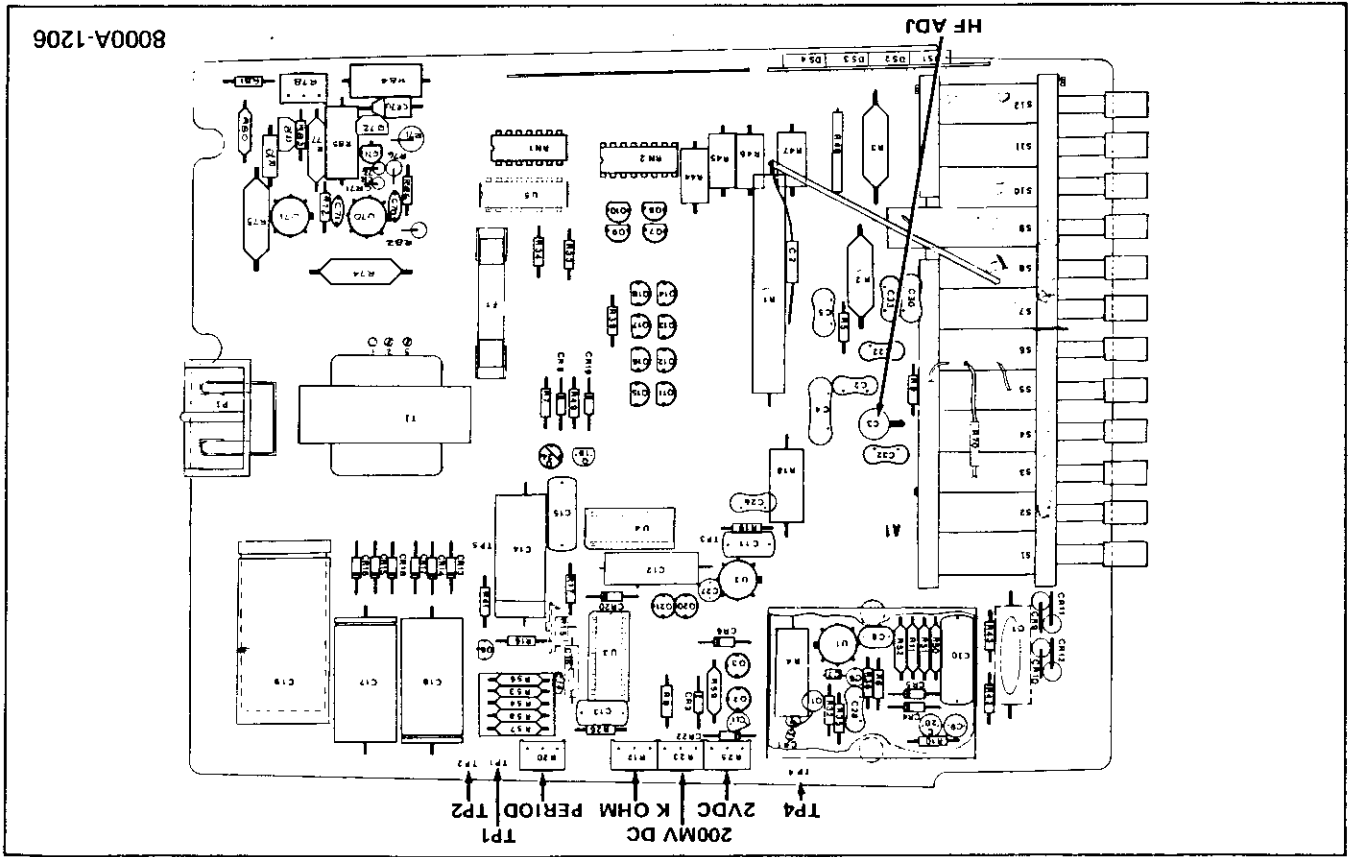

Figure 4-1. ADJUSTMENT AND TEST POINT LOCATIONS
- Connect the frequency counter between TP5 and TP4 (common) as shown in Figure 4-1.
- Using an appropriate adjusting tool, adjust R20 (PERIOD), shown in Figure 4-1 for a positive waveform portion of 100 ms ± 5 μ s. Variations of the time period should be $\leq \pm 1.5$ μ s.
- Adjust R23 (see Figure 4-1) for a readout of +190.0.
4-32. The 8000A range adjustments are accomplished in accordance with the instructions given in Table 4-3. The shaded areas of the table separate the adjustments from the checks. Refer to Figure 4-1 for the location of the specified adjustment. The following test equipment from Table 4-1 is used to provide the input specified for each function.